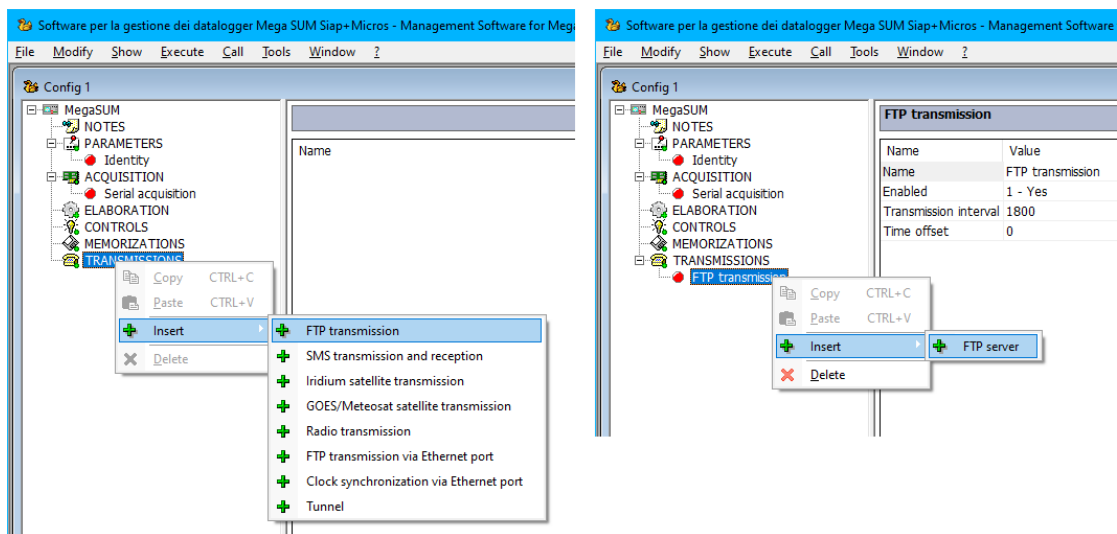

Figure 15.7: insert an FTP transmission.
- Insert an FTP transmission activity (Figure 15.7 left).
- From FTP transmission add the server phase (Figure 15.7 right).